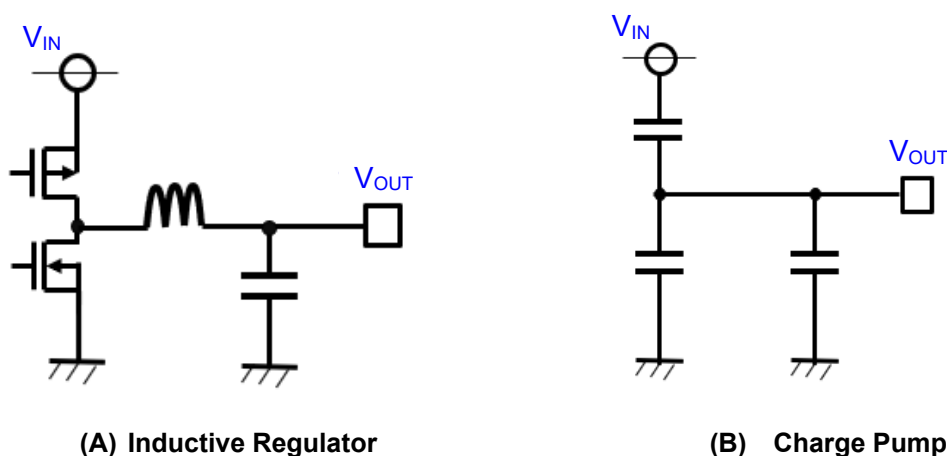

Figure 30. Inductive Regulator and Charge Pump
Figure 30(A) shows an inductive regulator called a buck converter. There is an inductor between switching node to V_{OUT} , so it would be prevented transient change of current when a hard short happened.
For Figure 30(B), it would be high di/dt condition with a hard short because MYC0409-NA does not have a large inductor but has low impedance of power FETs. In general, inductance would be reduced the current slope of inductor and impedance of power FETs would be reduced peak current. Therefore, “Hard Short Circuit Condition” is written as below.